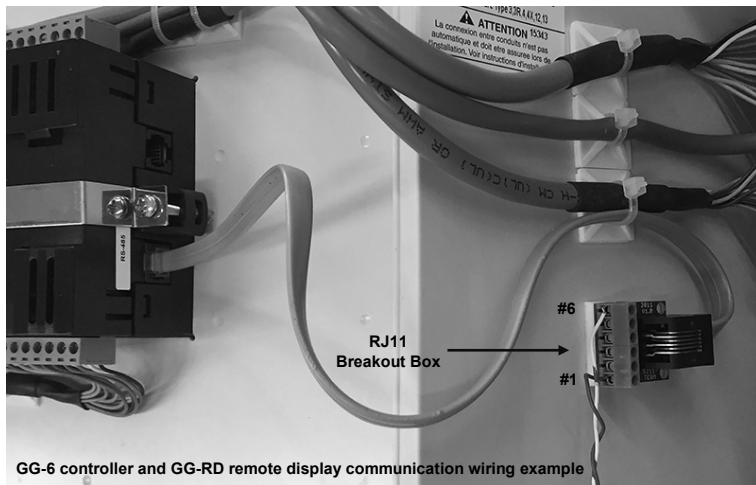

Figure 2.
- Land (1) shield wire at GG-6 controller to earth ground (no connection at GG-RD).
- Terminate both ends of the cable into the supplied RJ11 Breakout Boards (BB), using only the #1 and #6 positions as shown in Figure 2 below.